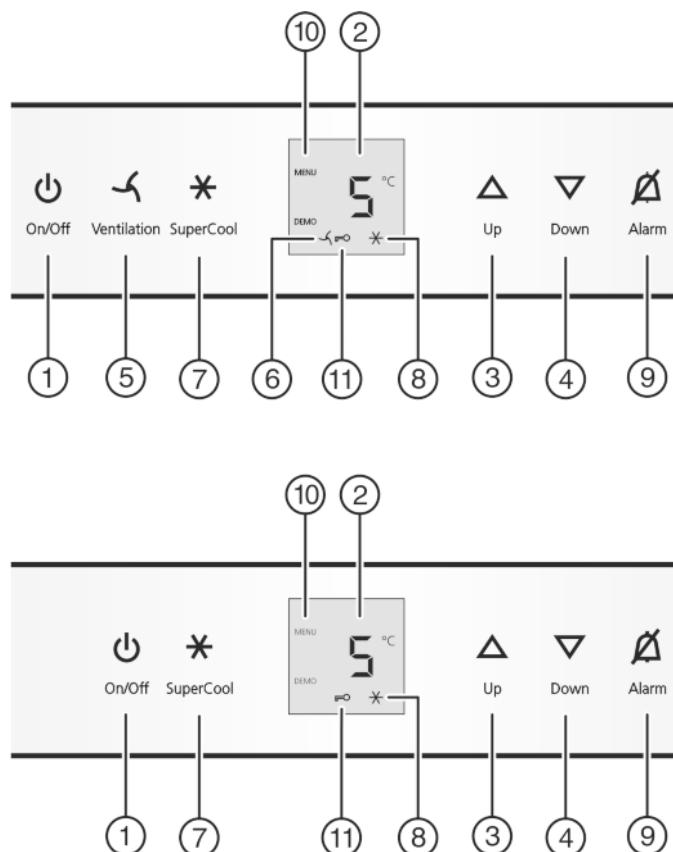

Fig. 2
- ▶ Press On/Off button Fig. 2 (1).
- ▶ To activate the setting mode: press SuperCool button *Fig. 2 (7)* for about 5 s.
- ▷ The menu symbol *Fig. 2 (10)* shines.
- ▶ Briefly press the SuperCool button *Fig. 2 (7)* to confirm.
- ▶ to activate the child lock, briefly press the SuperCool button *Fig. 2 (7)*.
- ▷ The child lock symbol *Fig. 2 (11)* shines. **c** flashes in the display.
- ▶ to deactivate the child lock, briefly press the SuperCool button *Fig. 2 (7)*.
- ▷ The child lock symbol *Fig. 2 (11)* goes out. **c** flashes in the display.
- ▶ To deactivate the set-up mode: press On/Off button *Fig. 2 (1)*.
- ▶ Press alarm button *Fig. 2 (9)*.
- ▶ For a higher temperature setting: press Up button *Fig. 2 (3)*.
- ▶ For a lower temperature setting: press Down button *Fig. 2 (4)*.
- ▶ Briefly press SuperCool button *Fig. 2 (7)*.
- ▷ The SuperCool symbol *Fig. 2 (8)* lights up in the display.
- ▷ The SuperCool symbol *Fig. 2 (8)* goes out in the display.
- ▶ Briefly press the fan button *Fig. 2 (5)*.
- ▷ The fan symbol *Fig. 2 (6)* shines.
- ▷ The fan symbol *Fig. 2 (6)* goes out.